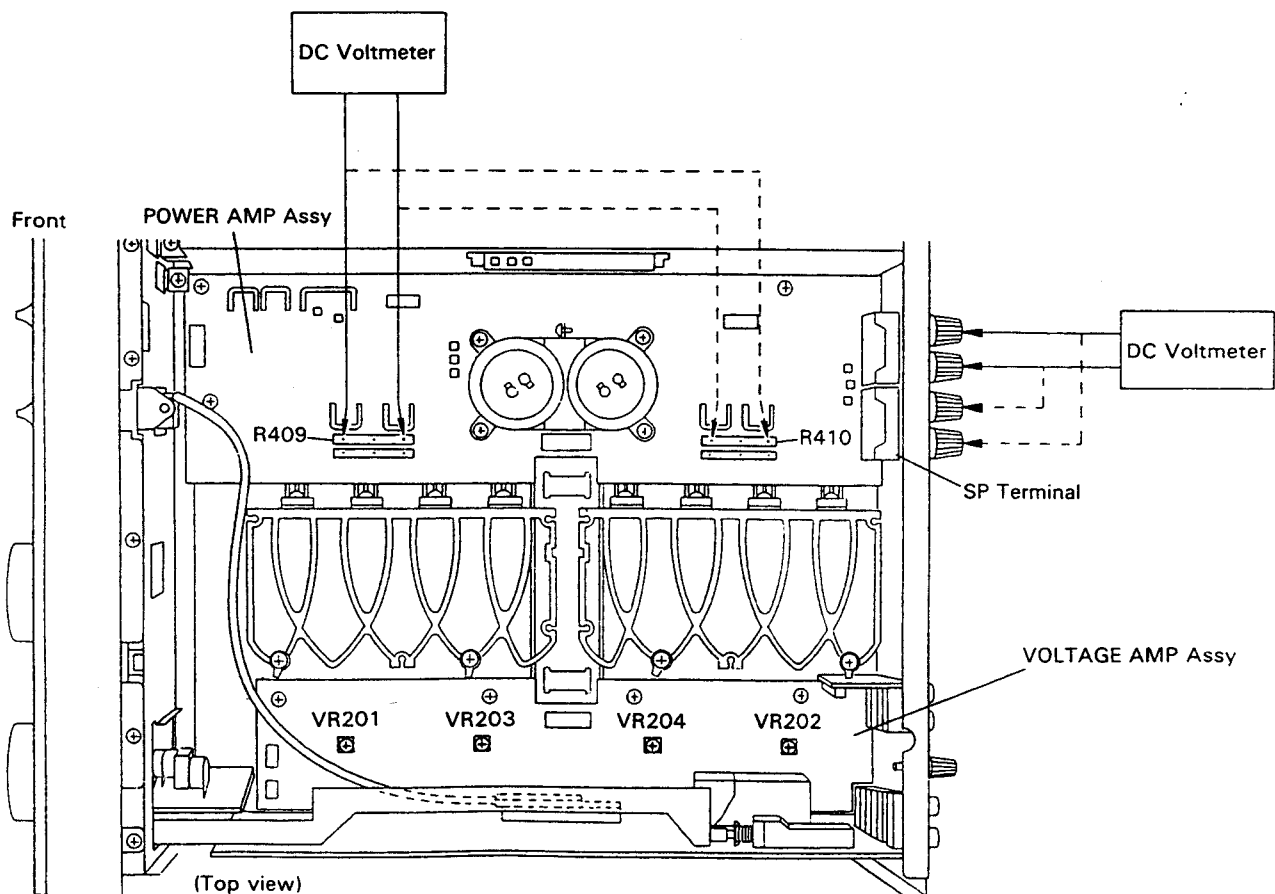

Fig. 6-1 Adjustment Method
1. Connect the measuring instrument as Fig. 6-1. (R409 or R410)
1. Connect the measuring instrument as Fig. 6-1. (SP terminal)